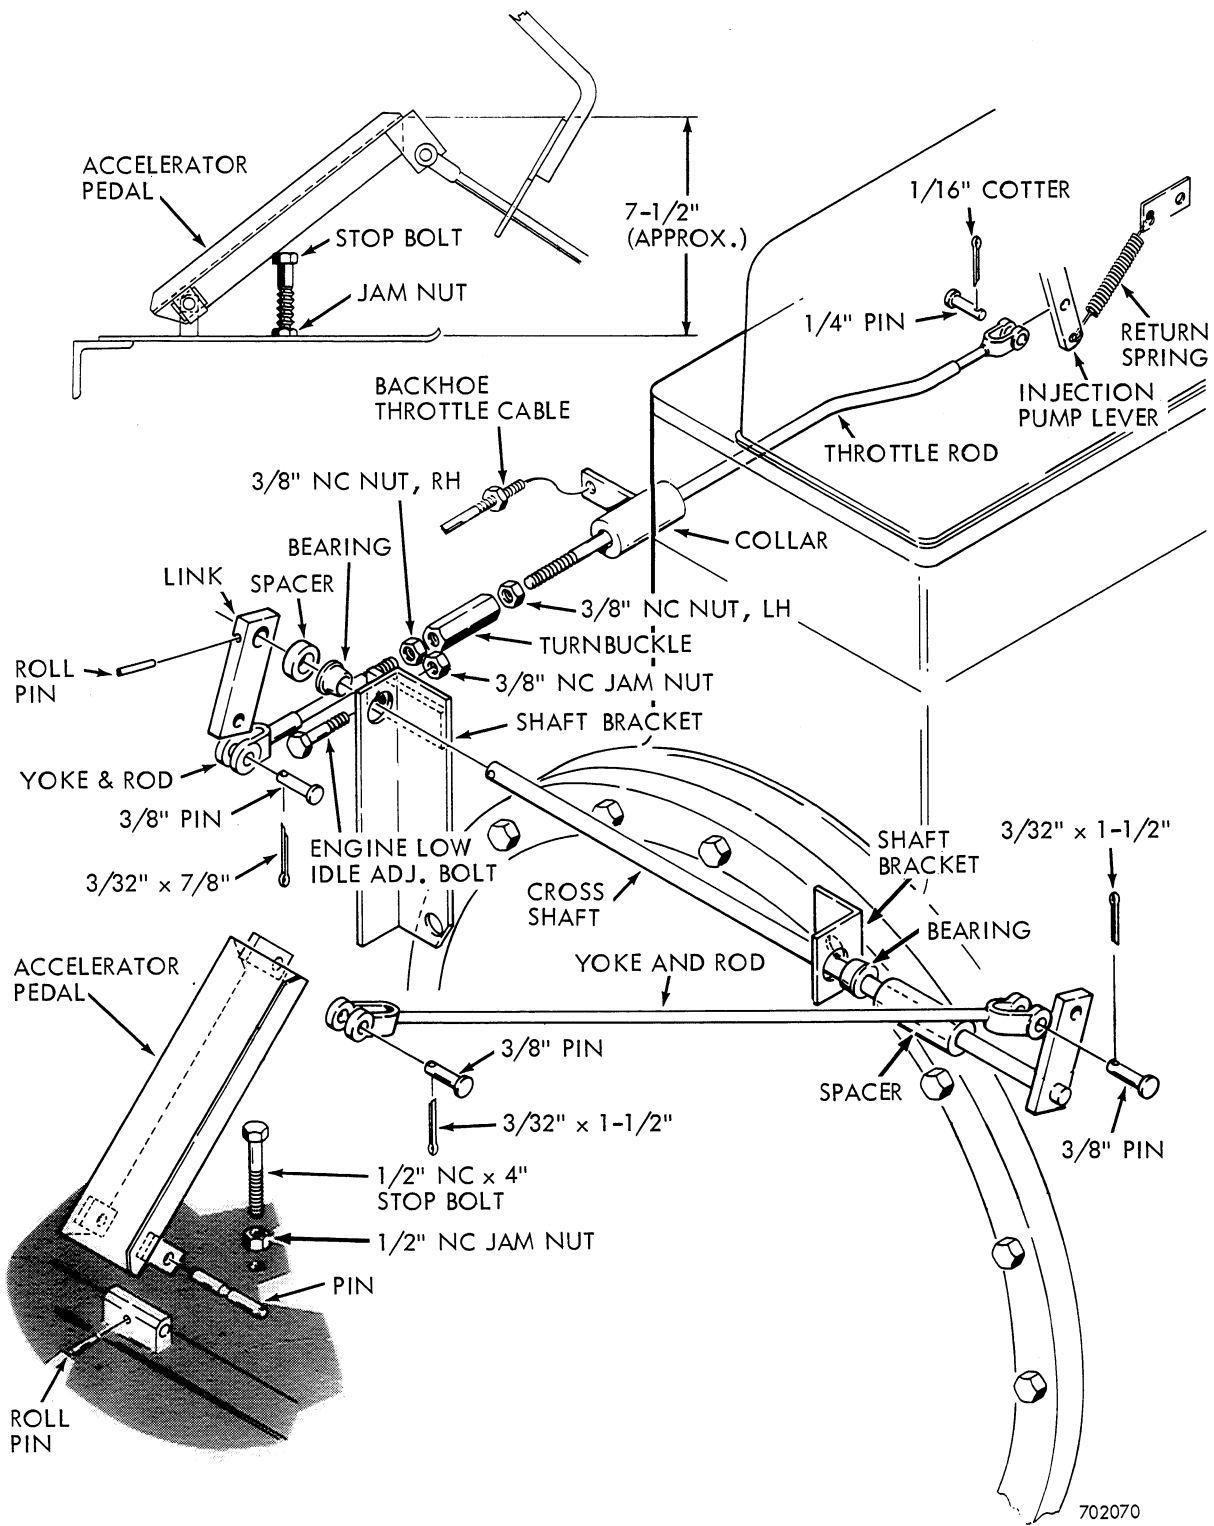

Figure 2 - Exploded View of Accelerator Linkage
Refer to Figures 2 and 3.
fications by turning the adjustment bolt at left rear of engine, Figure 2.
- b. Check accelerator pedal for the 00" dimension shown in Figure 2. If required, adjust the linkage. Recheck low idle speed and adjust, if necessary.
- c. Adjust stop bolt, Figure 2, to contact accelerator pedal at high idle.